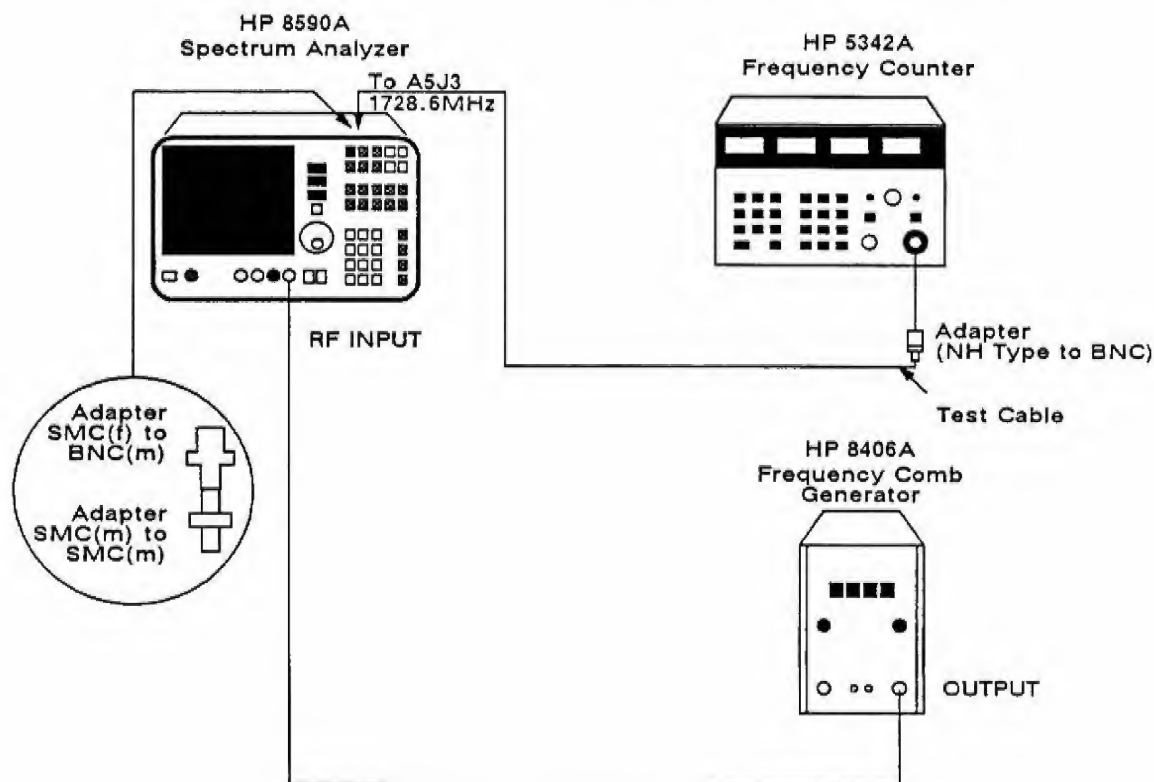

Figure 2-1. Second Converter LO and Bandpass Adjustment
3. Connect the equipment as shown in Figure 2-1. Connect the counter to the second LO test jack A5J3 at the top of Second Converter Assembly A5. Connect the comb generator to the analyzer RF input.